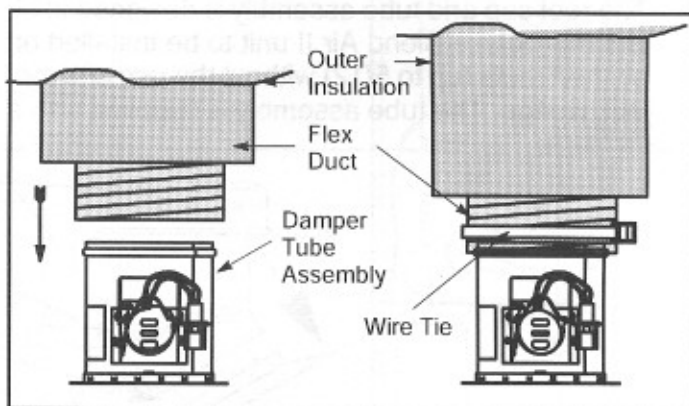

Figure 6 — Wire Tie Installation
3. Install inner flex duct to damper tube assembly using one large wire tie, as shown in Figure 6. Pull down insulation and outer flex duct. (Avoid over-tightening of strap.)